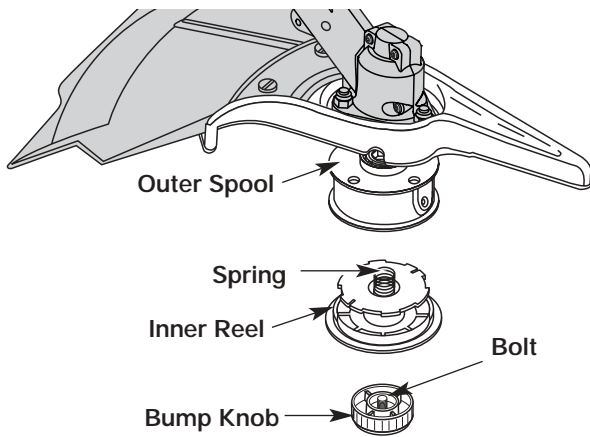

Fig. 51
1. Hold the outer spool with one hand and unscrew the Bump Knob clockwise (Fig. 51). Inspect the bolt inside the bump knob to make sure it moves freely. Replace the bump knob if damaged.
2. Remove the inner reel from the outer spool (Fig. 51).
3. Remove spring from the inner reel (Fig. 51).
1. Hold the outer spool with one hand and unscrew the bump knob clockwise (Fig. 51). Inspect the bolt inside the bump knob to make sure it moves freely. Replace the bump knob if damaged.
2. Remove the old inner reel from the outer spool (Fig. 51).
3. Remove the spring from the old inner reel (Fig. 51).